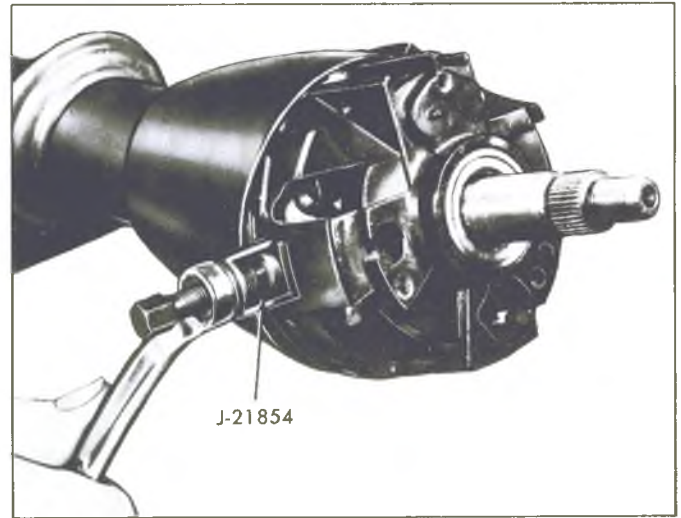

Fig. 92—Removing Bearing Housing Pivot Pin
7. Remove the two bearing housing pivot pins using Tool J-21854 (fig. 92).